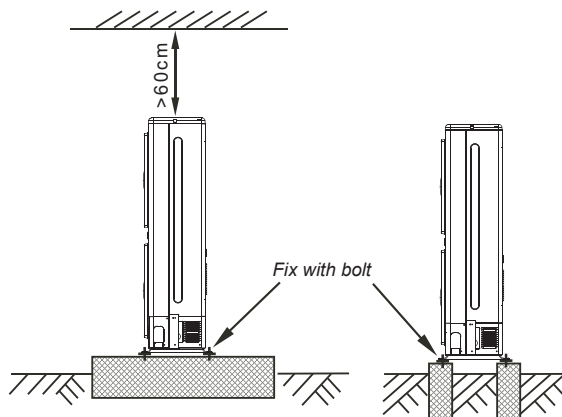

Fig. 3-7
- Make concrete foundation according to the sepecifications of the outdoor units.(refer to Fig.3-7)
- Fasten the feet of this unit with bolts firmly to prevent it from collapsing in case of earthquake or strong wind. (refer to Fig.3-7)